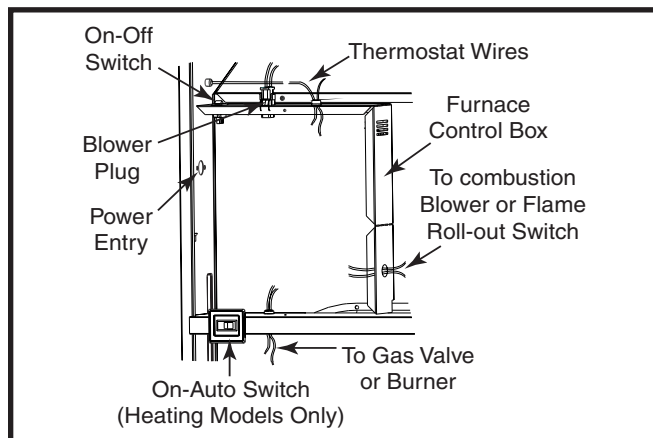

Figure 25. Control Panel (All Models)
2. Route wires (115 VAC) through the strain relief on the left side of the furnace control box. See Figure 25 \(page 12\).